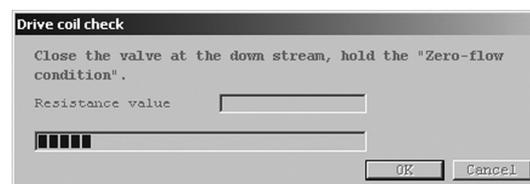

Fig.98
- ④ During the check, a progress bar will appear as shown in Fig. 98, allowing for the confirmation of the state of the check.